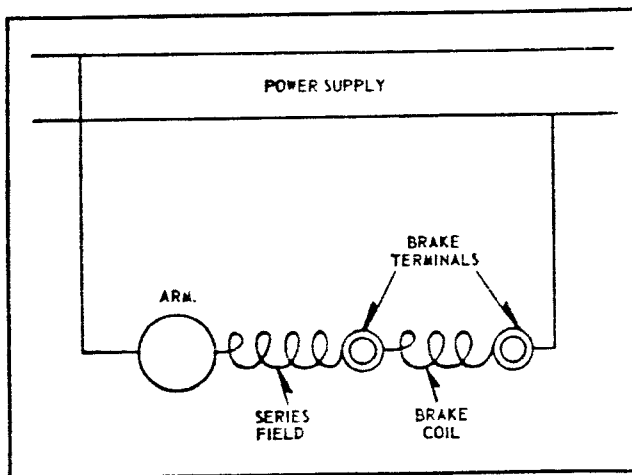
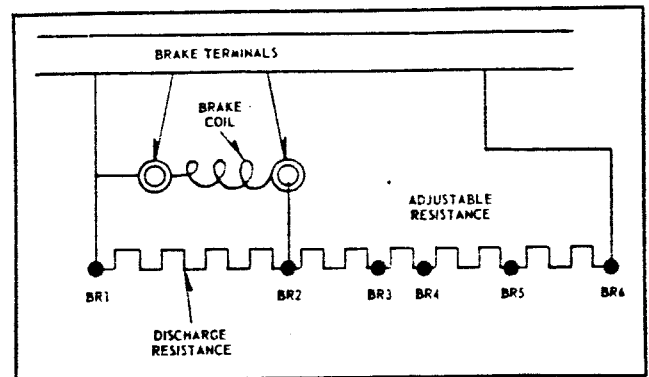

FIG. 3. Brake with Series Coil
FIG. 4. Brake with Shunt Coil
7. Coil Connection—See Diagrams Fig. 3 and Fig. 4.
5. The coil may not be connected as explained in paragraph 7 and Figs. 3 and 4.